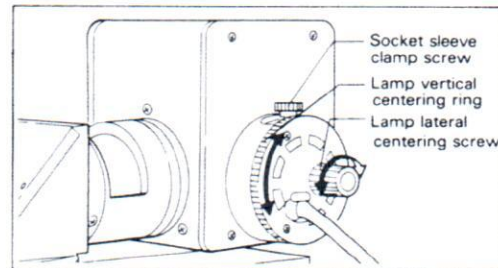
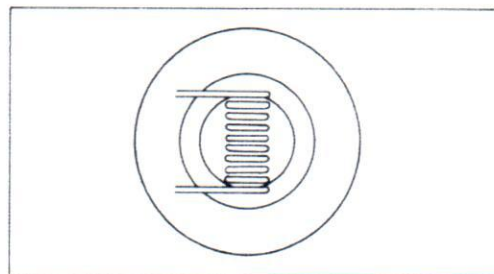

Fig. 10
Fig. 11
- ⑥ After releasing the socket sleeve clamp screw, as shown in Fig. 10, manipulate the lateral centering screw and vertical centering ring to bring the filament image to the center, as shown in Fig. 11.